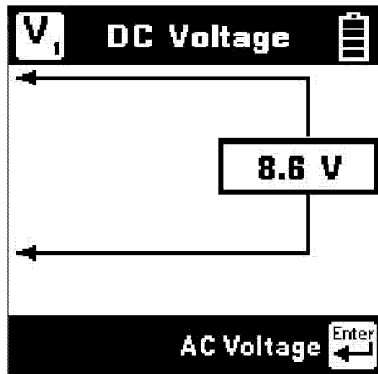

Figure 8. AST900 DC Voltage Display
30. 900AST VOLTAGE (Figures 8 and 9.)
- Connect the red and black test leads as shown on the display in Figure 8.
- View the DC voltage measurement value in the display. (See Figure 8).